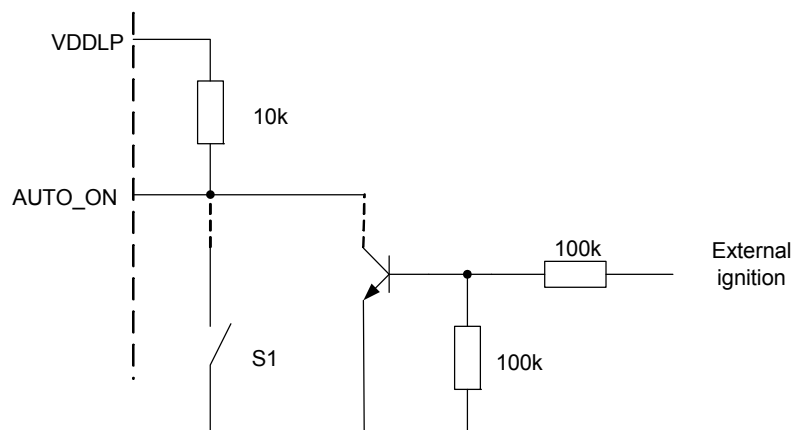

Figure 37: AUTO_ON circuit sample for controlled module switch-on
- Figure 37 for a controlled module switch on. Here, it is recommended to use a 10kΩ pull up resistor at the AUTO_ON pad. The 10kΩ pull up resistor may be required in an electrically noisy environment.
In case the AUTO_ON signal is permanently connected to ground (see Figure 37, S1 set to low level) the module will start up if the operating voltage BATT+ is applied with a rise time of less than 1 millisecond between 2.5V to 3.2V.